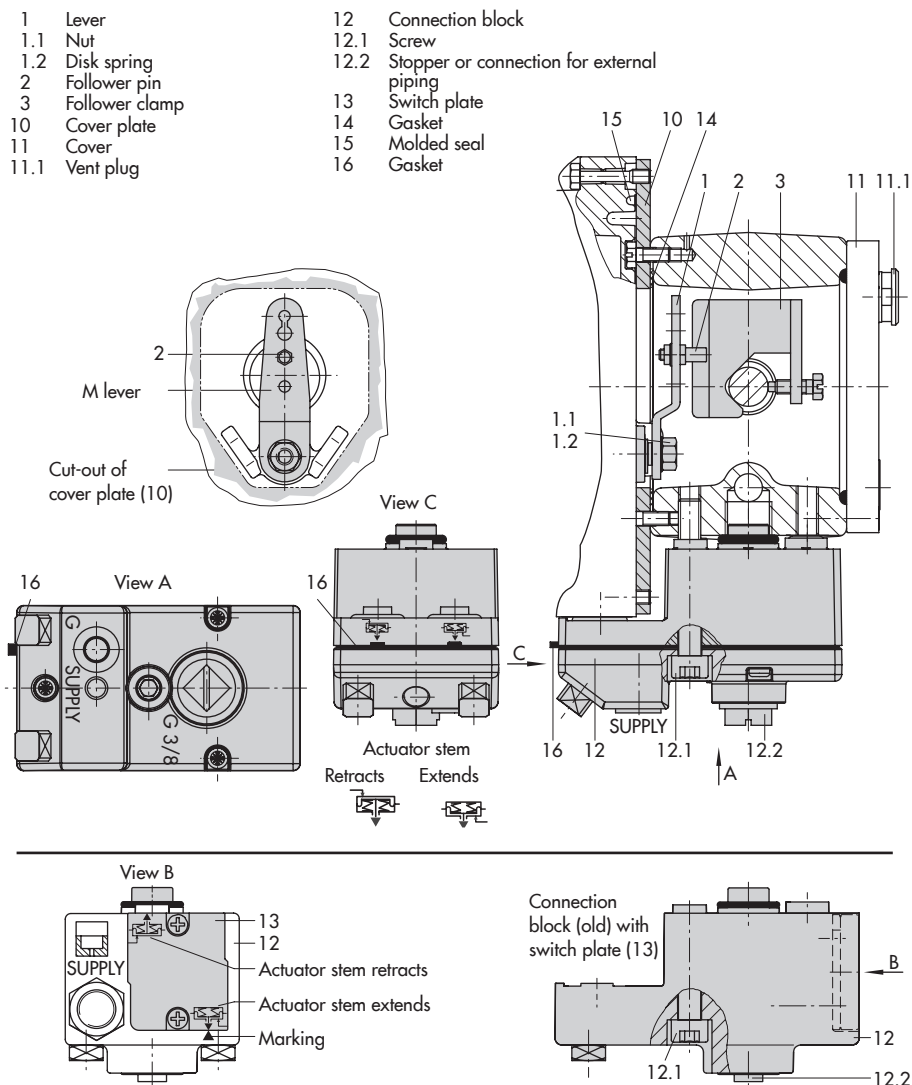

Fig. 5-6: Direct attachment – Signal pressure connection for Type 3277 Actuator with 175 to 750 cm²
Actuators with 175 to 750 cm² effective areas (see Fig. 5-6)
1. Place follower clamp (3) on the actuator stem, align it and screw tight so that the mounting screw is located in the groove of the actuator stem.
2. Mount cover plate (10) with narrow side of the cut-out (Fig. 5-6, on the left) pointing towards the signal pressure connection. Make sure that the gasket (14) points towards the actuator yoke.
3. For actuators with 355, 700 or 750 cm², remove the follower pin (2) on the M lever (1) on the back of the positioner from pin position 35, reposition it in the hole for pin position 50 and screw tight. While doing so, hold the lever in the middle to ensure that it does not rest at the end stops.
4. Insert molded seal (15) into the groove of the positioner housing.
5. Place positioner on the cover plate in such a manner that the follower pin (2) rests on the top of the follower clamp (3). Adjust the lever (1) correspondingly and open the positioner cover to hold the positioner shaft in position at the cap or rotary pushbutton. The lever (1) must rest on the follower clamp with spring force. Fasten the positioner on the cover plate (10) using the two fastening screws.
6. Make sure that the tip of the gasket (16) projecting from the side of the connection block is positioned to match the actuator symbol for the actuator's fail-safe action "actuator stem extends" or "actuator stem retracts". If this is not the case, unscrew the three fastening screws and lift off the cover. Turn the gasket (16) by 180° and re-insert it.
The old connection block version (Fig. 5-6, bottom) requires the switch plate (13) to be turned to align the actuator symbol with the arrow marking.
7. Place the connection block (12) with the associated seals against the positioner and the actuator yoke and fasten using the screw (12.1). For actuators with fail-safe action "actuator stem retracts", additionally remove the stopper (12.2) and mount the external signal pressure pipe.
8. Mount cover (11) on the other side.